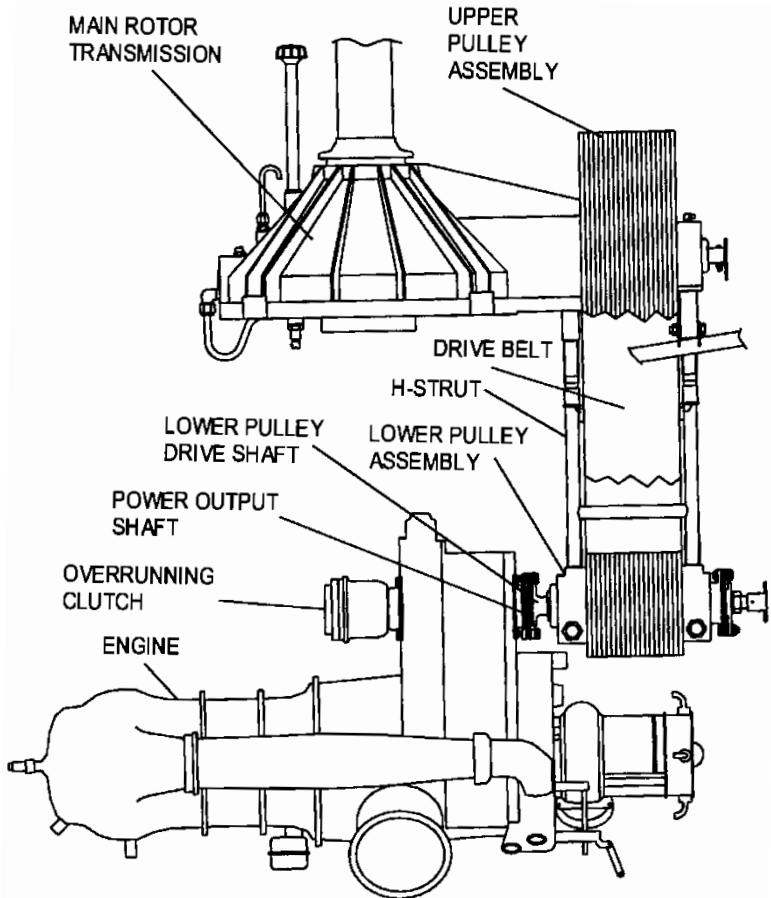

Figure 7-10. Power Train
1. The power train includes the main rotor transmission, upper pulley, drive belt, lower pulley, lower pulley drive shaft, overrunning clutch, power output drive shaft, short tail rotor drive shaft, long tail rotor drive shaft, and the tail rotor transmission. Figure 7-10 shows a simplified illustration of the power train.
1. Figure 7-10 depicts a simplified drive system assembly. Engine power is transmitted to the drive system through the engine power output shaft to the overrunning clutch located on the front side of the engine accessory gearbox. The overrunning clutch then transmits the engine power through a splined shaft (power output shaft) that runs back through the center of the overrunning clutch and the engine power output shaft to the rear of the engine accessory gear case where it is coupled to the lower pulley drive shaft by means of a flex coupling. The lower pulley drive shaft then passes through the hollow center of the lower pulley and mates with a splined hub bolted to the aft end of the lower pulley via another flex coupling. The splining on the drive shafting isolates the engine from any fore and aft loading in the drive system and the flex couplings between the power output shaft and the lower pulley drive shaft allows for as much as 1.5° of pulley-engine angular misalignment.